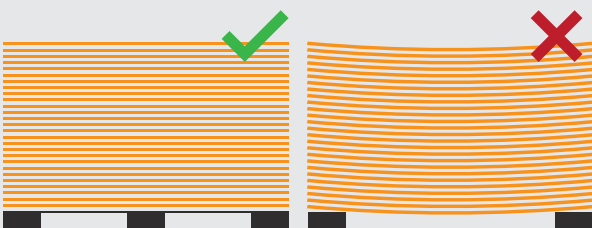

Figure 1.
- Atlon MGO boards should be stored horizontally in a cool dry environment and should remain in the original manufacturer's packaging until ready for use. (Figure 1).